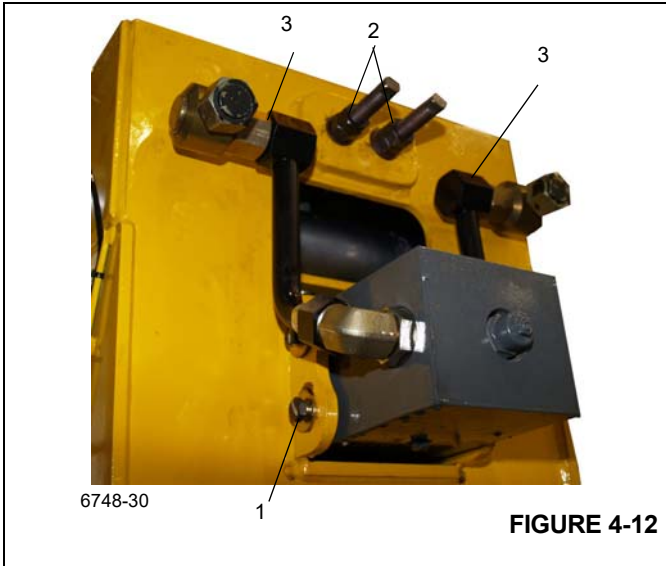

FIGURE 4-12
5. Remove the tube assemblies (3), (Figure 4-12) from the telescopic cylinder and cap the ports.
6. Remove the bolts and washers securing the telescope cylinder outer rod (1), (Figure 4-12) to the rear of the base section.
7. Remove the nuts and washers securing the synchronizing cable ends (2), (Figure 4-12) to the base section.